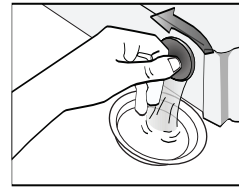

Fig 11
4. Reconnect the inlet pipe to tap. Remove the remaining water in drain pump (Fig 11).